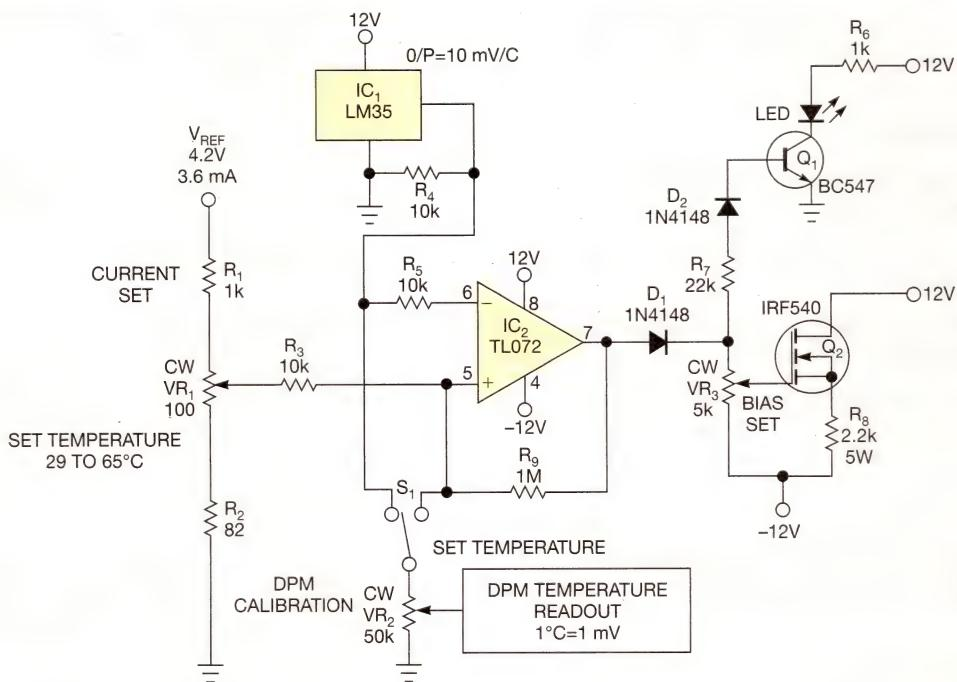

Figure 1  $IC_1$  senses the temperature of the item that  $Q_5$  heats, and the temperature remains at the level that  $VR_1$  sets.
You can use an N-channel IRF540 MOSFET to directly heat and control the temperature of a biological sample from ambient to 45°C. Figure 1 shows a simple on/off-type control circuit in which an LM35,  $IC_1$ , is the temperature sensor, whose output a DPM
**→** Many battery-powered systems require a visual indication when the battery needs replacement. LEDs often serve as the indicator, but they can draw as much as 10 mA of current. This excessive current drain unduly accelerates the battery's discharging and curtails the battery's useful life. **Figure 1** uses a sampled-data technique to lower the monitor circuit's average power consumption. The circuit draws 5  $\mu$ A of standby current and 30  $\mu$ A during low-battery indication.
**Figure 1** Instead of continuously draining the battery, this monitor circuit samples the inputs to achieve power consumption of 5  $\mu$ A in standby and 30  $\mu$ A during low-battery indication.